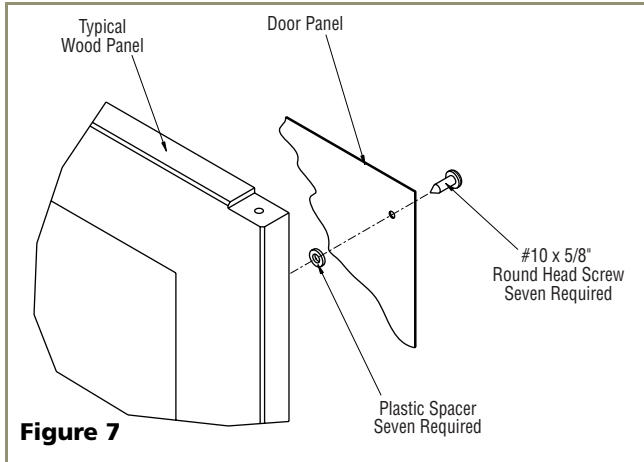

Figure 7
3. Attach the door panel to the overlay panel using #10 x 5/8" wood screws and nylon spacers. The nylon spacers fit between the overlay panel and the door panel as shown in **Figure 7**. The spacers allow the original door panel to slide back into the 1/4"-thick door reveal (channel).